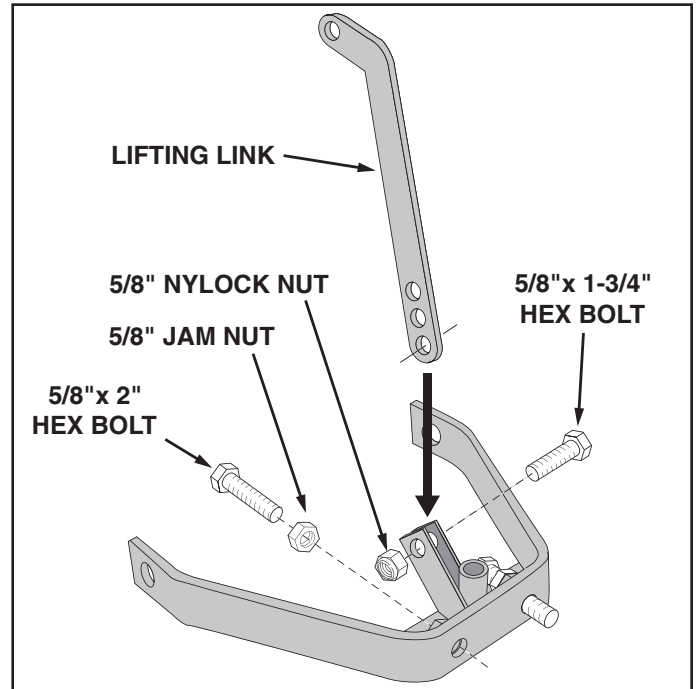

FIGURE 5
- Assemble the two 5/8" jam nuts halfway onto the two 5/8" x 2" hex bolts. Screw the bolts into the nuts that are welded to the Sleeve Hitch Lift Assembly. Tighten the jam nuts against the welded nuts. See figure 5.
- Assemble the lifting link to the Sleeve Hitch Lift Assembly using a 5/8" x 1-3/4" hex bolt and a 5/8" nylock nut. Use the bottom hole in the lifting link (gives the lowest implement depth setting). Tighten the nut only until snug. Do not squeeze the welded arms together. See figure 5.
2. Attach an implement using the sleeve hitch pin. Tighten the 5/8" x 2" stabilizer bolts against the implement hitch and then tighten the jam nuts. See figure 5 on page 4.